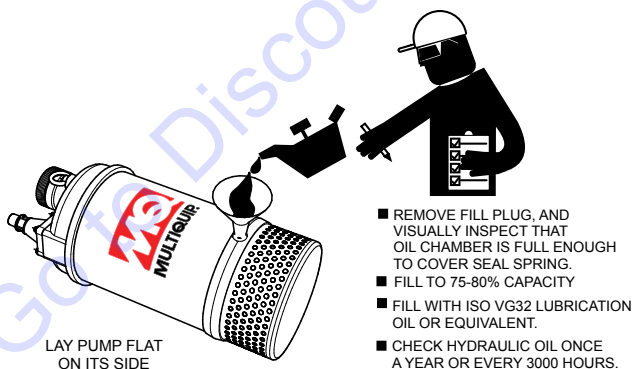

Figure 18. Adding Lubrication Oil
1. Lay the pump (Figure 18) on its side with the oil plug facing upwards.
2. Use a funnel (Figure 18) and fill oil chamber with ISO VG32 lubrication oil or equivalent. Oil chamber capacity is 40 oz. (1,200 cc) for ST41230/ST41460 and 47 oz (1,400 cc) ST61230/ST61460. Fill to 75-80% capacity to allow for expansion. Replace lubrication oil once a year or 3,000 hours.